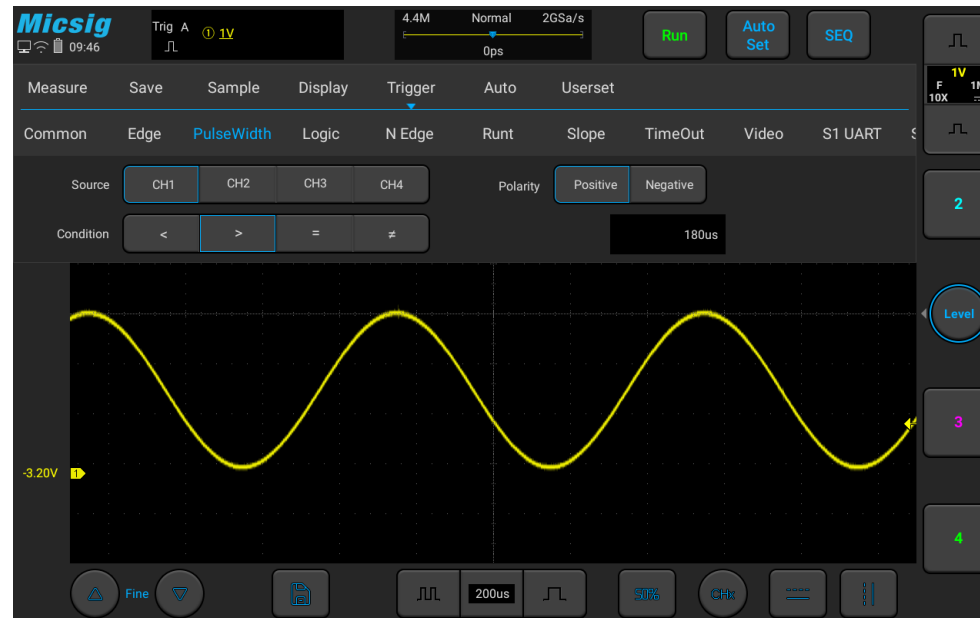

Figure 5-14 Pulse Width Trigger Setting Menu
- 1) Tap “Trigger” on the main menu to open the trigger menu, select the pulse width trigger in the trigger type, and set the pulse width trigger as follows, as shown in Figure 5-14: